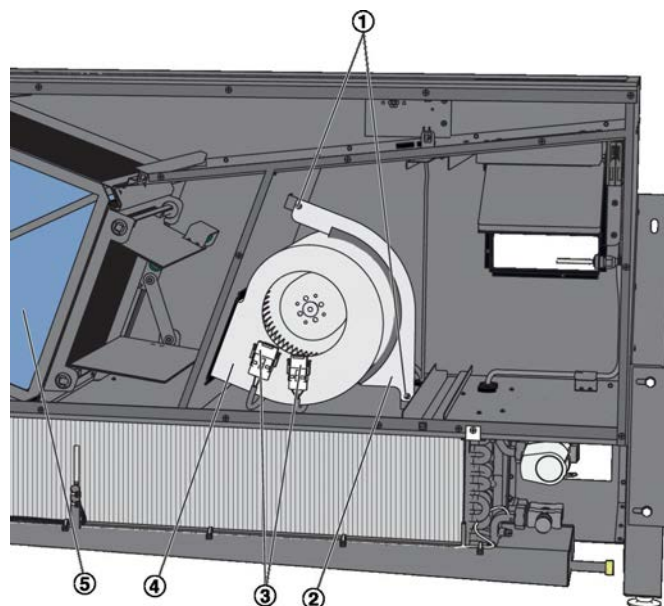

Fig. 27: Replacing the supply air fan
The supply air fan is installed to the right of the recuperative heat exchanger (Fig. 27/5).
4. ▶ Pull out the two plugs of the fan connecting cable (Fig. 27/3).
5. ▶ Demount the retaining bracket for the fan (Fig. 27/2) by loosening the two Phillips screws (Fig. 27/1).
6. ▶ Remove the fan (Fig. 27/4).